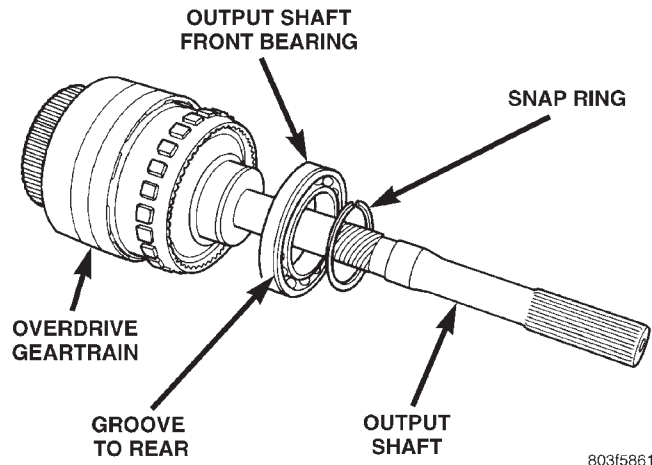

Fig. 37 Output Shaft Front Bearing
(1) Remove overdrive unit from the vehicle.
(2) Remove overdrive geartrain from housing.
(3) Remove snap ring holding output shaft front bearing to overdrive geartrain. (Fig. 37).
(4) Pull bearing from output shaft.
(1) Place replacement bearing in position on geartrain with locating retainer groove toward the rear.
(2) Push bearing onto shaft until the snap ring groove is visible.
(3) Install snap ring to hold bearing onto output shaft (Fig. 37).
(4) Install overdrive geartrain into housing.
(5) Install overdrive unit in vehicle.